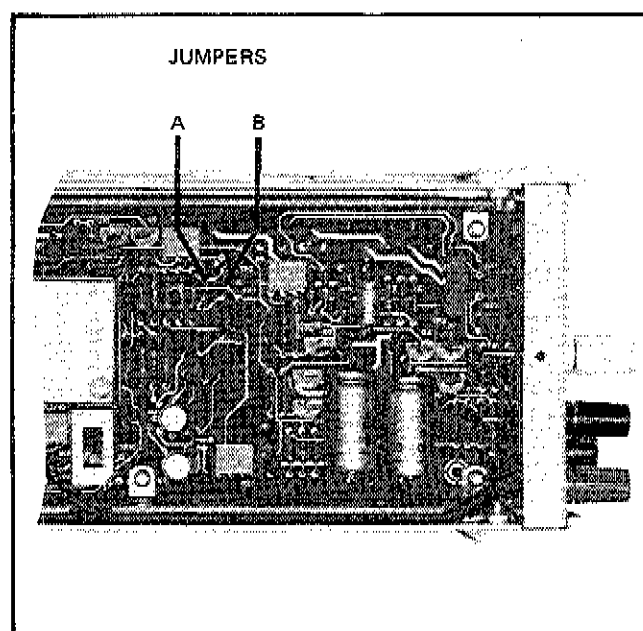

Figure 4-8. V_{REF} JUMPER LOCATIONS
- b. Locate jumpers A and B using Figure 4-8 and re-connect any cut jumpers.